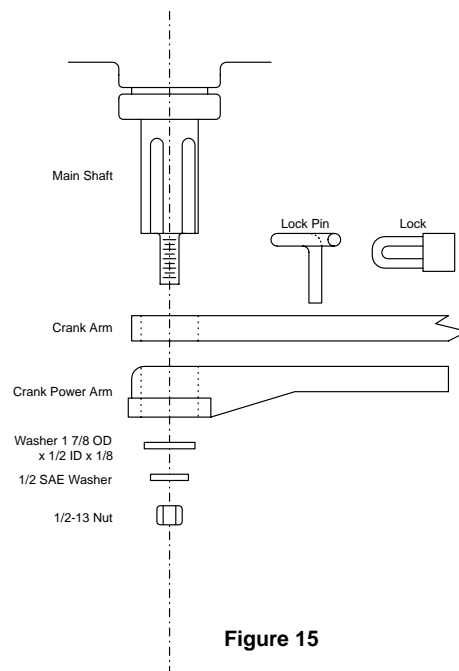

Figure 15
1. Attach the crank arm and crank power arm to the operator output shaft using the supplied hardware (Figure 15). Position the arm so that it is pointing towards the gate.